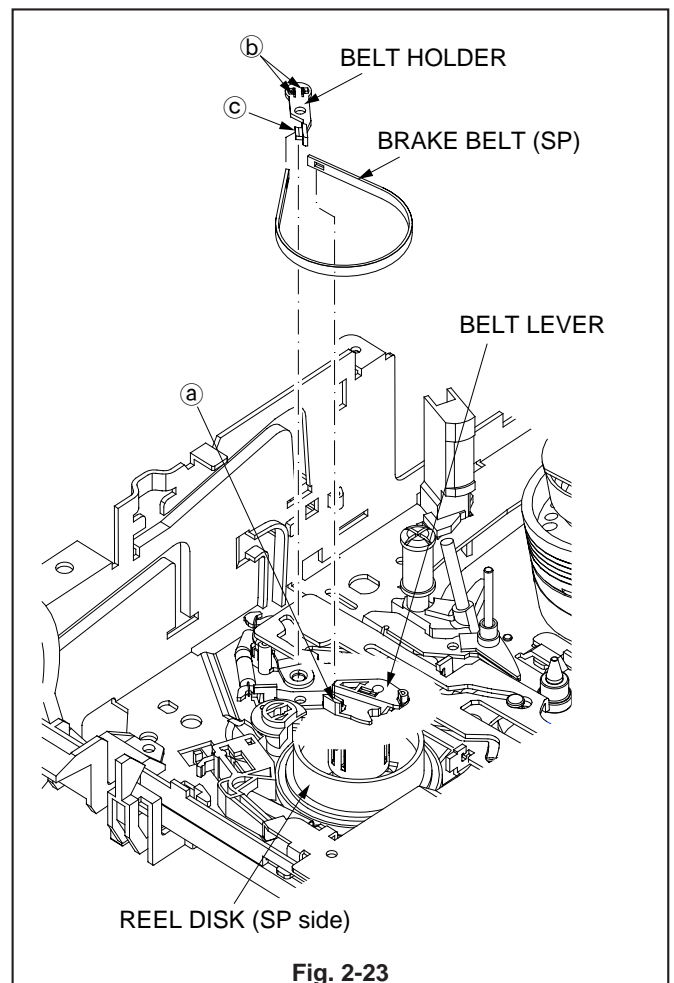

Fig. 2-23
1. Lift the BRAKE BELT (SP) shown in Fig. 2-23 to remove it from the REEL DISK (SP side).
2. Release the BRAKE BELT (SP) from the catch (a) of the BELT LEVER shown in Fig. 2-23.
3. Release the two catches (b) of the BELT HOLDER shown in Fig. 2-23 and separate the BELT HOLDER from the BRAKE BELT (SP).
4. Release the catch (c) of the BELT HOLDER shown in Fig. 2-23 to remove the BRAKE BELT (SP).
1. Hook the BRAKE BELT (SP) shown in Fig. 2-23 to the catch (c) of the BELT HOLDER.
2. Install the BELT HOLDER shown in Fig. 2-23.
3. Hook the BRAKE BELT (SP) shown in Fig. 2-23 to the catch (a) of the BELT LEVER.
4. Hook the BRAKE BELT (SP) shown in Fig. 2-23 to the REEL DISK (SP side).